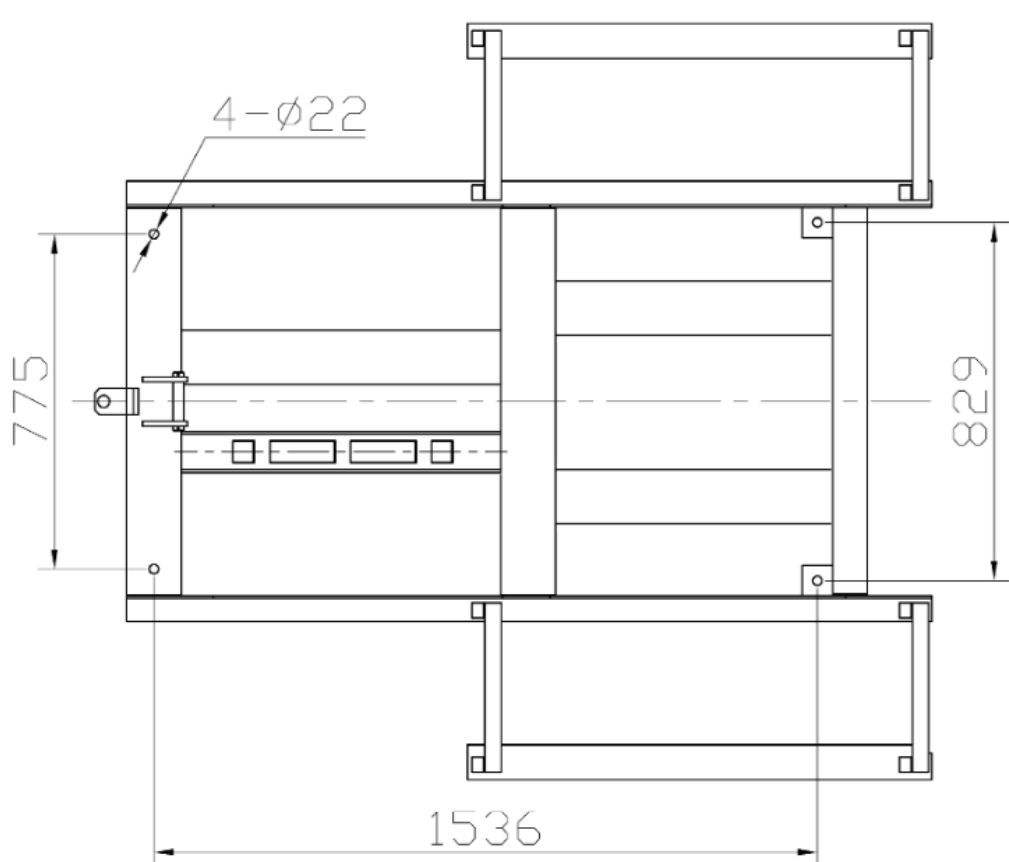

Fig.18
5. There are four fixed holes in the machine, can fix the machine on ground by 3/4 X 4 3/4" anchor bolts (**See Fig.18**).